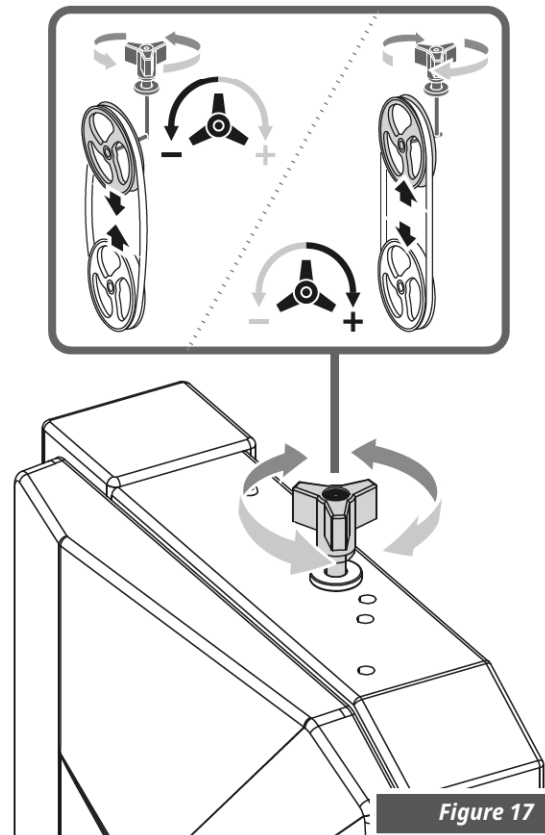

Figure 17
- Turning the setting knob counter - clockwise reduces the blade tension. (See Figure 17)